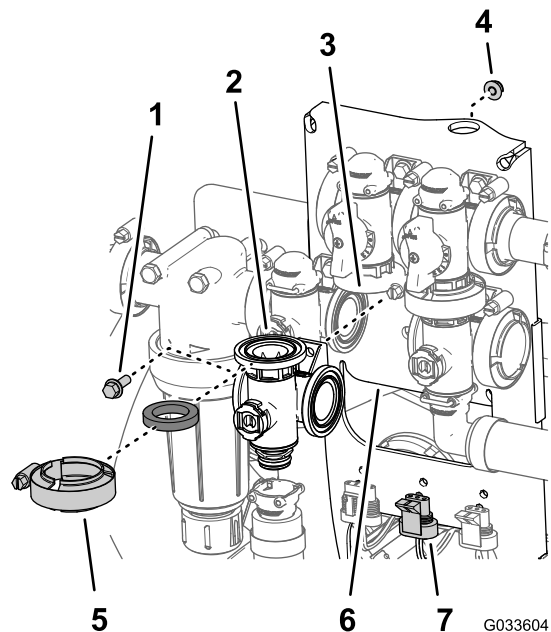

Figure 127
1. Align the flange of the agitation-valve manifold, a gasket, and the flange of the agitation bypass valve (Figure 127).
9. Assemble the agitation valve to the valve mount with the flanged-head bolt and flanged locknut (Figure 127) that you removed in step 3 of Removing the Agitation Manifold Valve \(page 80\) and torque the nut and bolt to 10 to 12 N·m (90 to 110 in-lb).